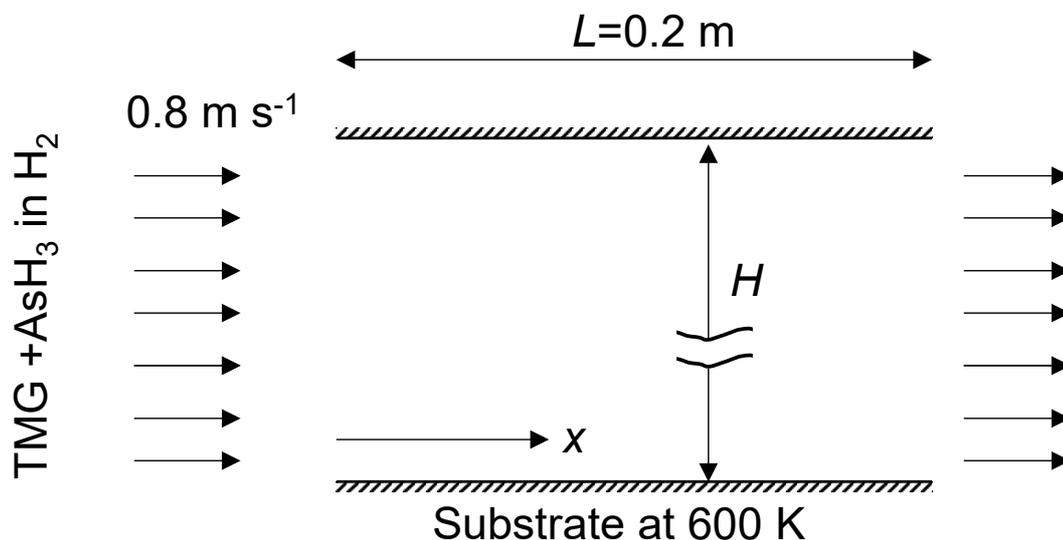

Figure Q1
1. In semi-conductor manufacture, thin layers of gallium arsenide (GaAs) are deposited onto a substrate using chemical vapour deposition (CVD), in which hydrogen gas containing small amounts of trimethylgallium (TMG) and arsine (AsH₃) is passed over a flat plate (the substrate) that is heated to 600 K, as shown in Figure Q1. A very fast reaction occurs on the substrate, by thermal decomposition of TMG and arsine, leading to deposition of GaAs: